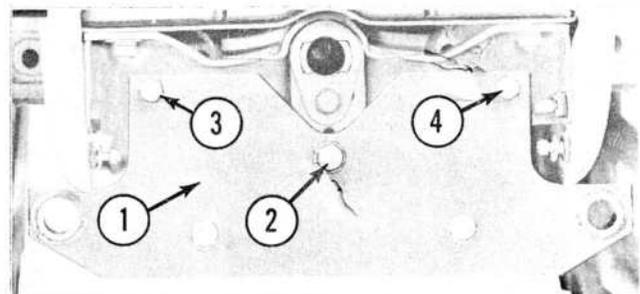

Figure 10
9. When all nuts and bolts in the support assembly have been tightened, use the front support plate as a template and drill two $\frac{1}{2}$ " holes in the axle support as shown at (3) and (4), Figure 10. Insert two $\frac{1}{2}$ " bolts in these holes and secure with lockwashers and nuts.